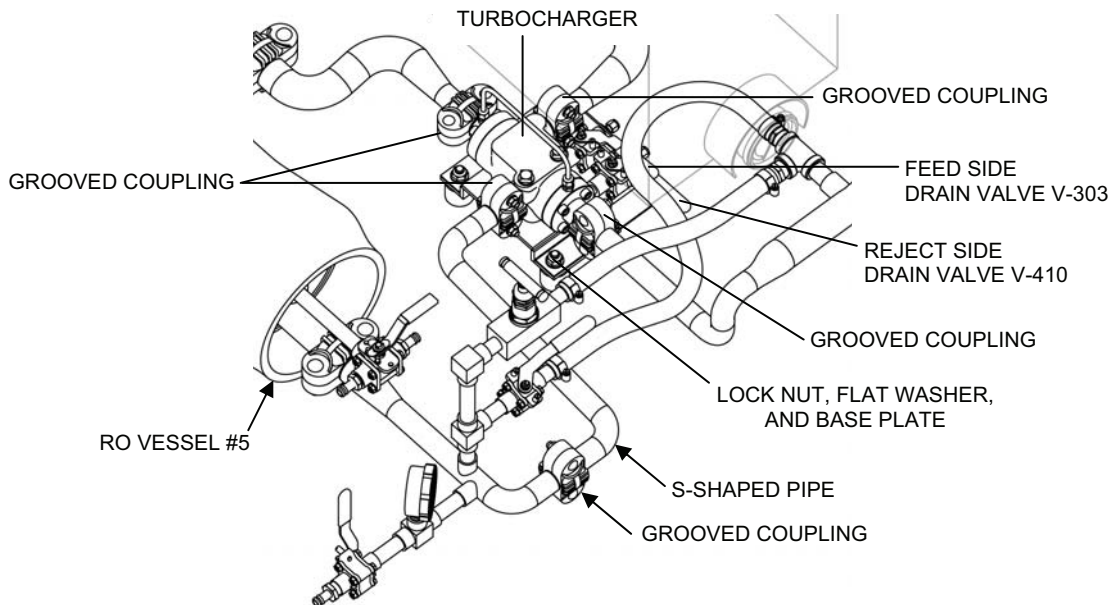

Figure 13. Removal of Pressure Recovery Turbocharger PRT-1 from the TWPS.
1. Remove Pressure Recovery Turbocharger PRT-1 from the TWPS as follows (see Figure 13):
4. Install the turbocharger assembly onto the TWPS as follows (see Figure 13):